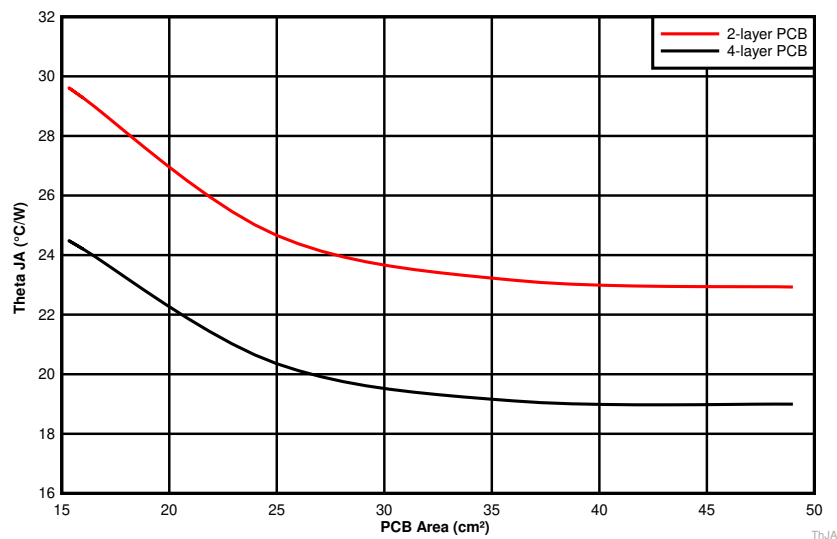

Figure 9-5. θ_{JA} vs PCB Area
The amount of PCB copper effects the thermal performance of the device. Figure 9-5 shows the effects of copper area on the junction-to-ambient thermal resistance ($R_{\theta JA}$) of the LMZM33602. The junction-to-ambient thermal resistance is plotted for a 2-layer PCB and a 4-layer PCB with PCB area from 16 cm² to 49 cm².
3. Reference Figure 9-5 to determine the minimum required PCB area for the application conditions.